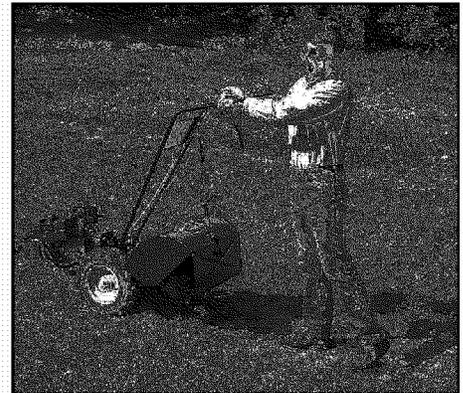

Figure 4-3: Raise tines off ground and look behind when moving in reverse.
- (b) Stop all forward motion before reversing. Lift the handlebars with one hand until the tines are off the ground and then pull the Reverse Clutch control out (see Figure 4-3). To stop reverse motion, let go of the Reverse Clutch Control.